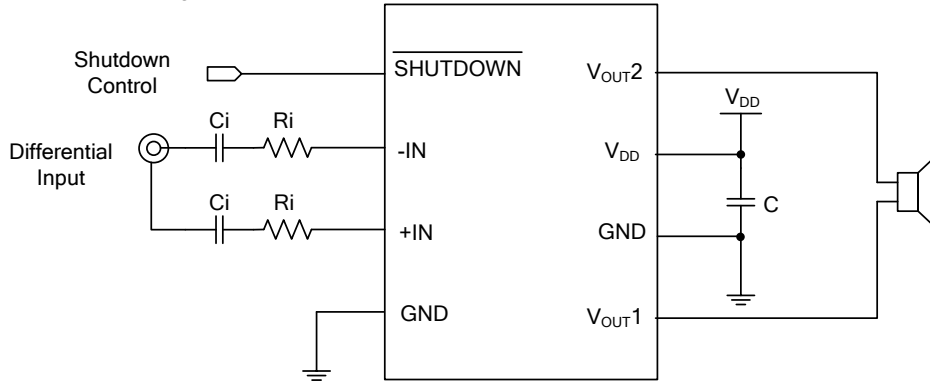

Fig. 4 Differential Input Configuration with capacitors
We recommend an external resistor Ri of the error within 1%, and the resistance should be close to M4670 input pins to keep two symmetrical inputs, which will help improve the M4670 noise suppression due to the good CMRR of the M4670. Noise coupled onto input traces which are physically close to each other will be common mode and easily rejected by the M4670. Input capacitors may be needed for some applications or when the source is single-ended (Fig. 4, 6). Input capacitors are needed to block any DC voltage at the source so that the DC voltage seen between the input terminals of the M4670 is 0V. Input capacitors create a high-pass filter with the input resistors, Ri. The -3dB point of the high-pass filter is found using Equation (3) below.
Input capacitors can be used in a differential configuration as shown in Fig. 4. Equation (3) above is used to determine the value of the C_i capacitors for a desired frequency, Equation (2) above is used to determine the value of the R_i resistors for a desired gain.